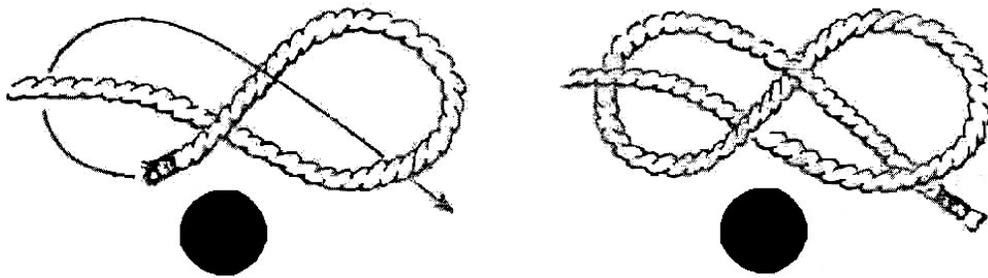

Figure 3-76
2. Tie a figure eight knot (see Figure 3-76).